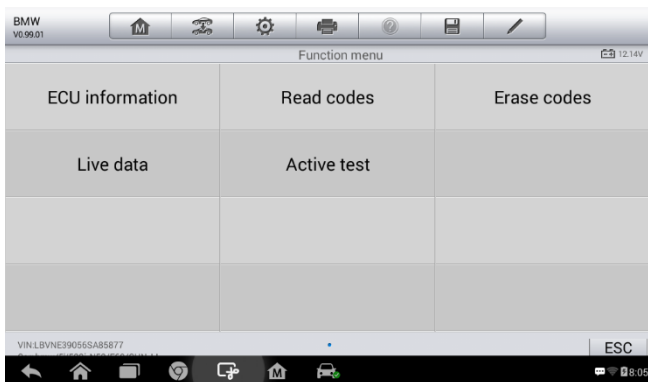

Figure 0-10 Sample Function Menu Screen
- Tap the  button to the right of the system item, on which you want to perform further diagnosis and other test activities. A Function Menu screen (*Figure 0-10*) shall then display.